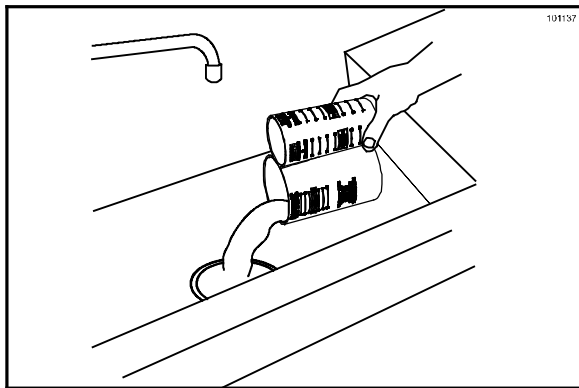

Figure 138
- Discard the water into the back sink. (See Figure 138.)